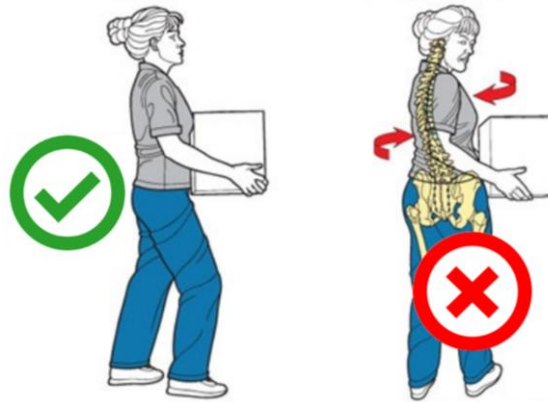

Fig. 6-3 – Handling technique
- Avoid twisting the back (Fig. 6-3);